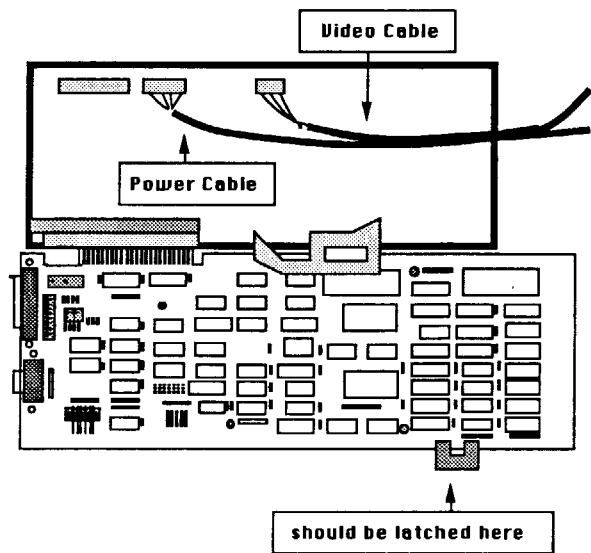

Figure 5
1. Only the bottom slot can be used for the Trackstar board. Remove the empty bracket from the slot. Install the Trackstar board as shown below. The board should be latched by the slot guide. When the board is plugged into the slot, put the screw through the bracket of the board to the chassis. See Figure 5.